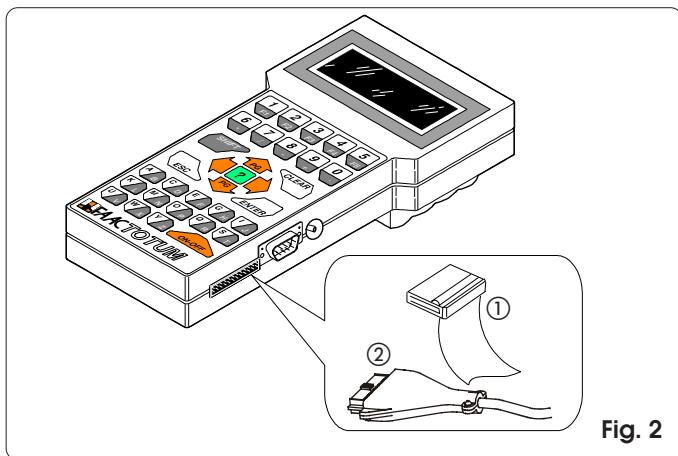
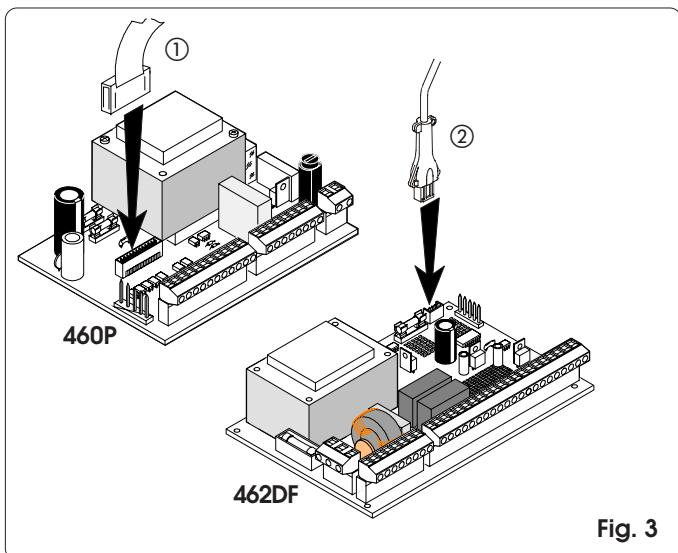

Fig. 2
Fig. 3
Connect FAACTOTUM to the equipment using the cable (fig. 2):
460P: 20 poles - 20 poles (fig. 2 ref. ①) and fig. 3 ref. ①)
462 DF: 20 poles - 8 poles (fig. 2 ref. ② and fig. 3 ref. ②)